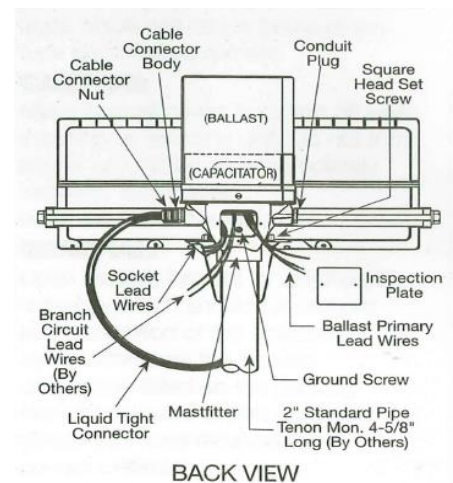

FIGURE 4
STEP 6 – Remove inspection plate and gasket from back of mast fitter by removing the six screws (see **FIGURE 4**). Mount fixture/ballast assembly to 2-3/8" square head set screws on the side of the mast fitter against the pipe tenon to 8 ft.-lbs. **NOTE: Due to UL requirements, branch circuit lead wires can not be routed up through the mast fitter as UL requires this area to be sealed in order to meet UL844 standards. Therefore, branch circuit lead wires must be terminated.** In that ballast wiring compartment by removing the 1/2" pipe plug from the mast fitter and attaching approved connectors and cable (by user) such as flexible liquid type conduit if local code allows. See **FIGURE 5**. For approved wiring methods see Article 501-4 (b) of the National Electric Code.